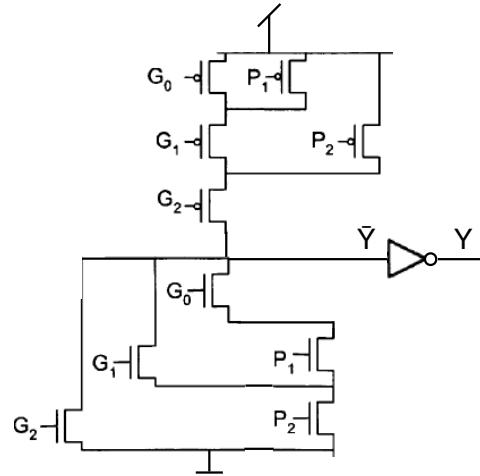

Figure 2: The schematic for a five-input cell that can be used in a three-input PG (dot-operator) cell.
Figure 2 shows the circuit schematic for a cell that can be used in a valency-3 PG (that is, dot-operator) cell for a prefix adder.
- Is it possible to lay out the compound gate as drawn in the schematic in Figure 2 using continuous-line-of-diffusion for both the n-net and the p-net? Motivate. (2 p)